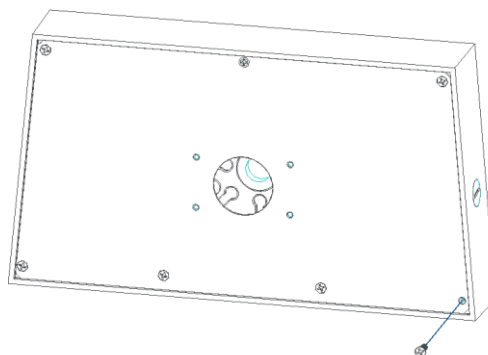

Figure 13
5. Reinstall the cover using the outer screws (Figure 13). Do not install the four center screws. Ensure that the SBB gasket remains in the gasket channel.